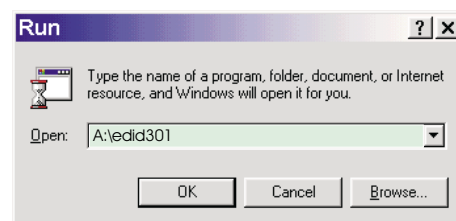

Fig. 5
- 4. At the submenu, type the letter of your computer's floppy disk drive followed by :EDID301 (for example, A:\EDID301, as shown in Fig. 5).